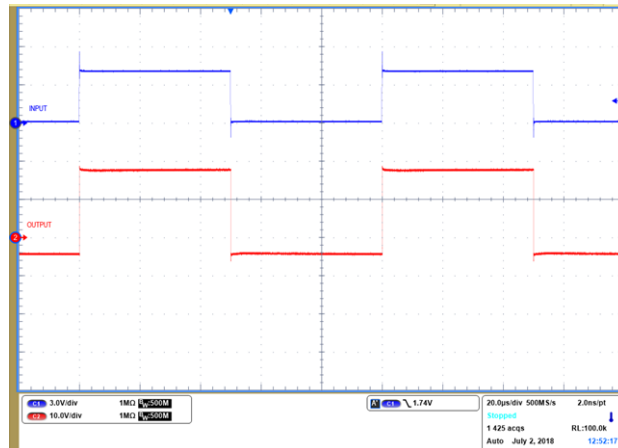

Figure 9. Input and Output Switching Waveforms with $C_{LOAD} = 10$ nF
5. Compare waveforms with typical screen shot shown in Figure 9